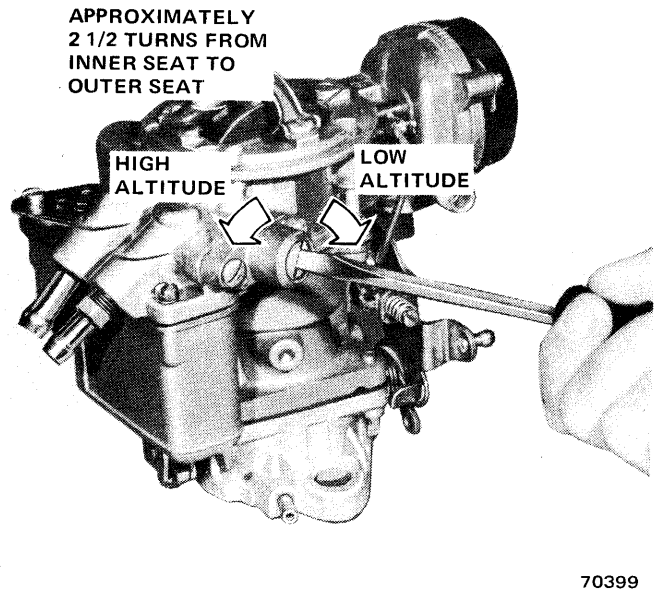

Fig. 4-39 Compensator Adjustment
- Turn the plug **counterclockwise** to the outer seat for operation at altitudes above 4000 feet (fig. 4-39).